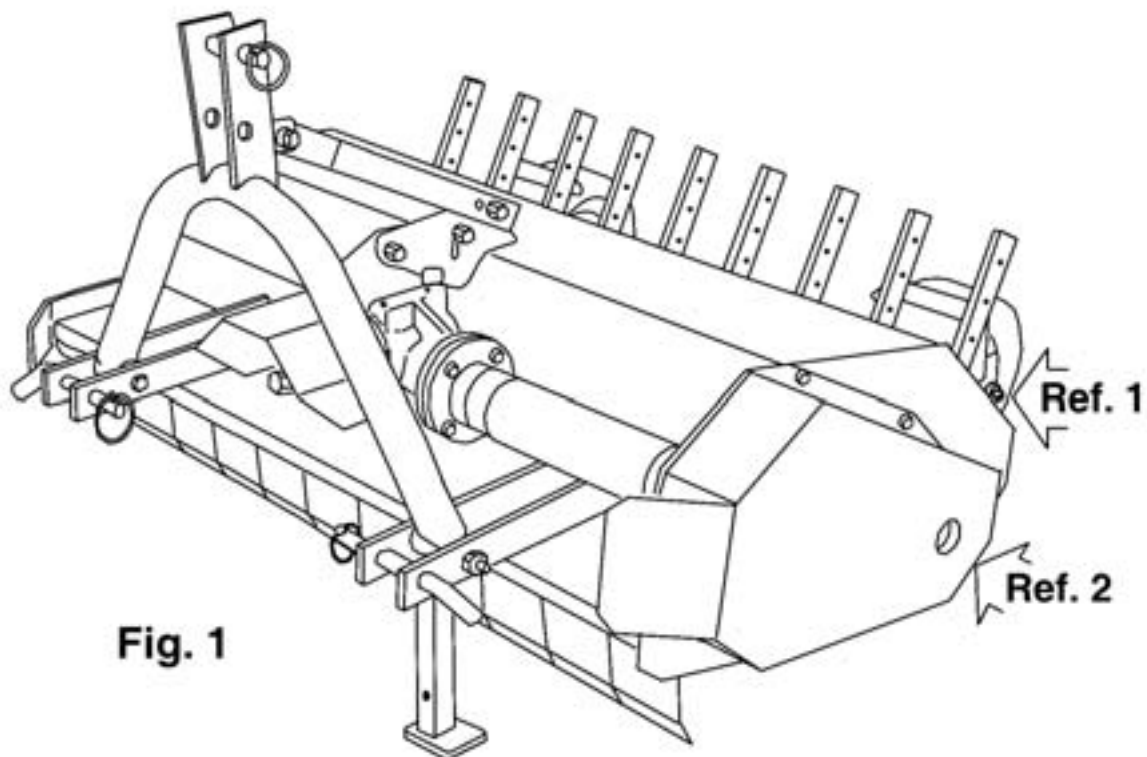

Fig. 1
To adjust roller, loosen (*Fig. 1, ref. 1*). Completely remove (*Fig. 1, ref. 2 & 3*). Align the appropriate hole in the support bracket with the hole in the deck to achieve roller position desired.